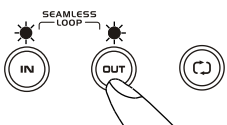

fig.7
- c- Press OUT button again for new desired ending point of the loop (figure 7).